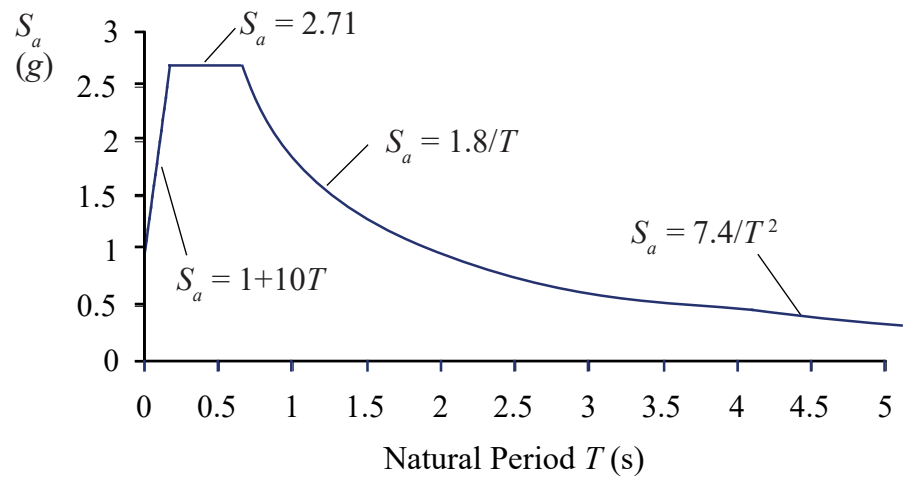

Fig. 4
- (ii) Consider only the first mode, and assume it has a mode shape $\phi = (0.618, 1.0)$. Using the elastic design spectrum of Fig. 4, estimate the maximum interstorey drift for an event with a Peak Ground Acceleration of 0.25g. [25%]